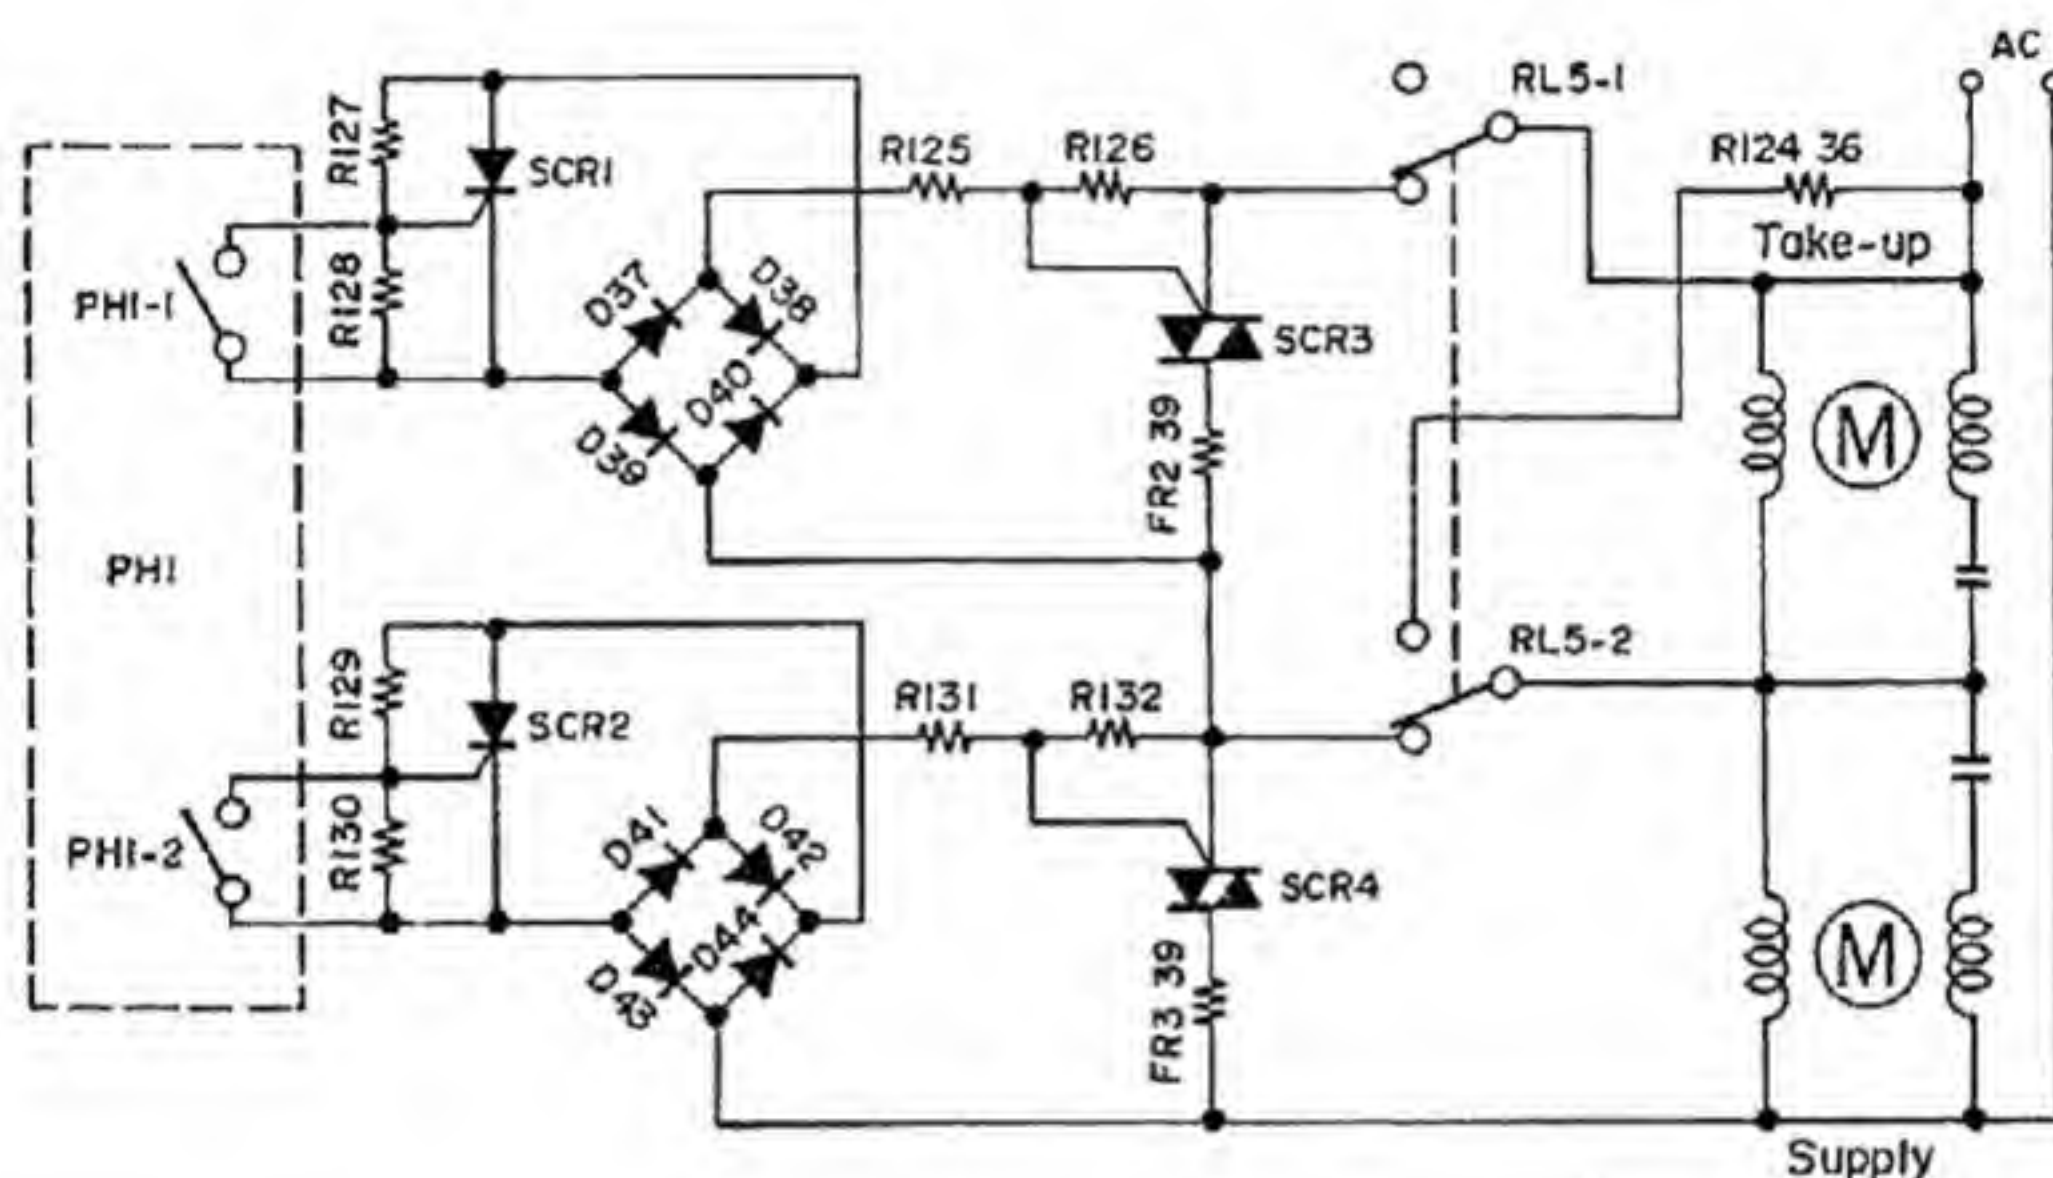

Fig. 30
"H" enters the base of TR42 through R115 to turn TR42 ON and RL5 ON. Fig. 30 shows the condition when RL5 is ON. R124 36 ohms so far attached is disconnected from the take up reel motor. Suppose the signal of IC2 (22) (reel motor control) is in "L". TR40 is OFF via R108, and TR38 is turned OFF via R104. TR38 collector will be "H". The base of TR49 will be "H" through R106 to turn TR39 ON, i. e., the switch of PH1-2 is ON.